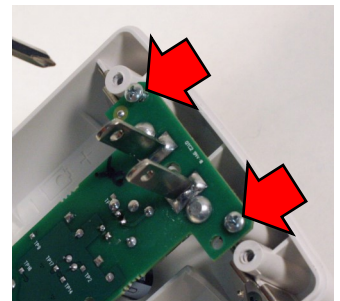

Fig. 3: Remove the two "Wall Outlet PCB" screws
7. Remove the two screws that secure the **Wall Outlet PCB** (see Fig. 3). Unplug the **Wall Outlet PCB** and place into the supplied anti-static bag/sheet for possible future use.